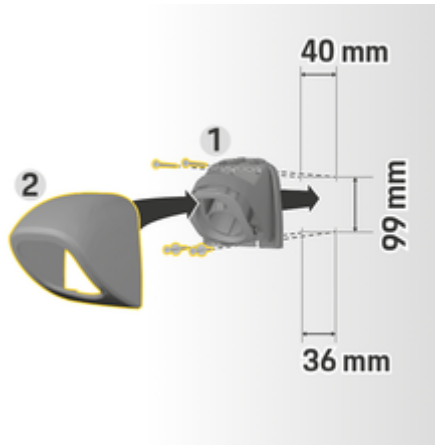

Fig. 30: Drilling dimensions
1. Remove the connector fastener **1** (Fig. 30) from the cover **2** (Fig. 30).
4. Screw the connector fastener **1** (Fig. 30) onto the wall.
5. Fit the cover **2** (Fig. 30) onto the connector fastener **1** (Fig. 30) from below and push up.